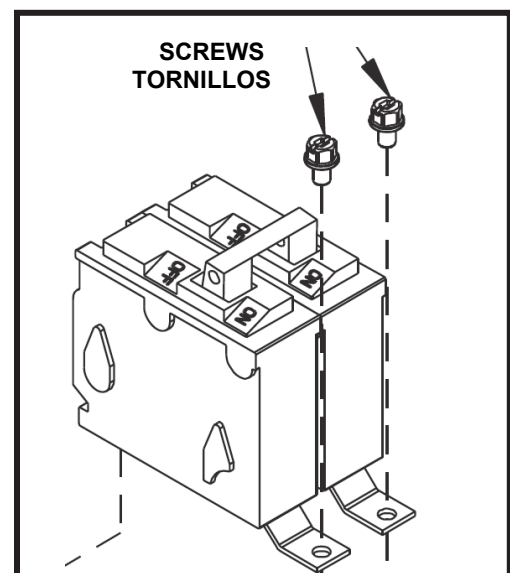

FIG. 2
6. For bolt-on devices, utilize the screws provided with the panelboard to attach the breaker line terminals to the panelboard bus (fig. 2). Torque the screws per panelboard specifications.